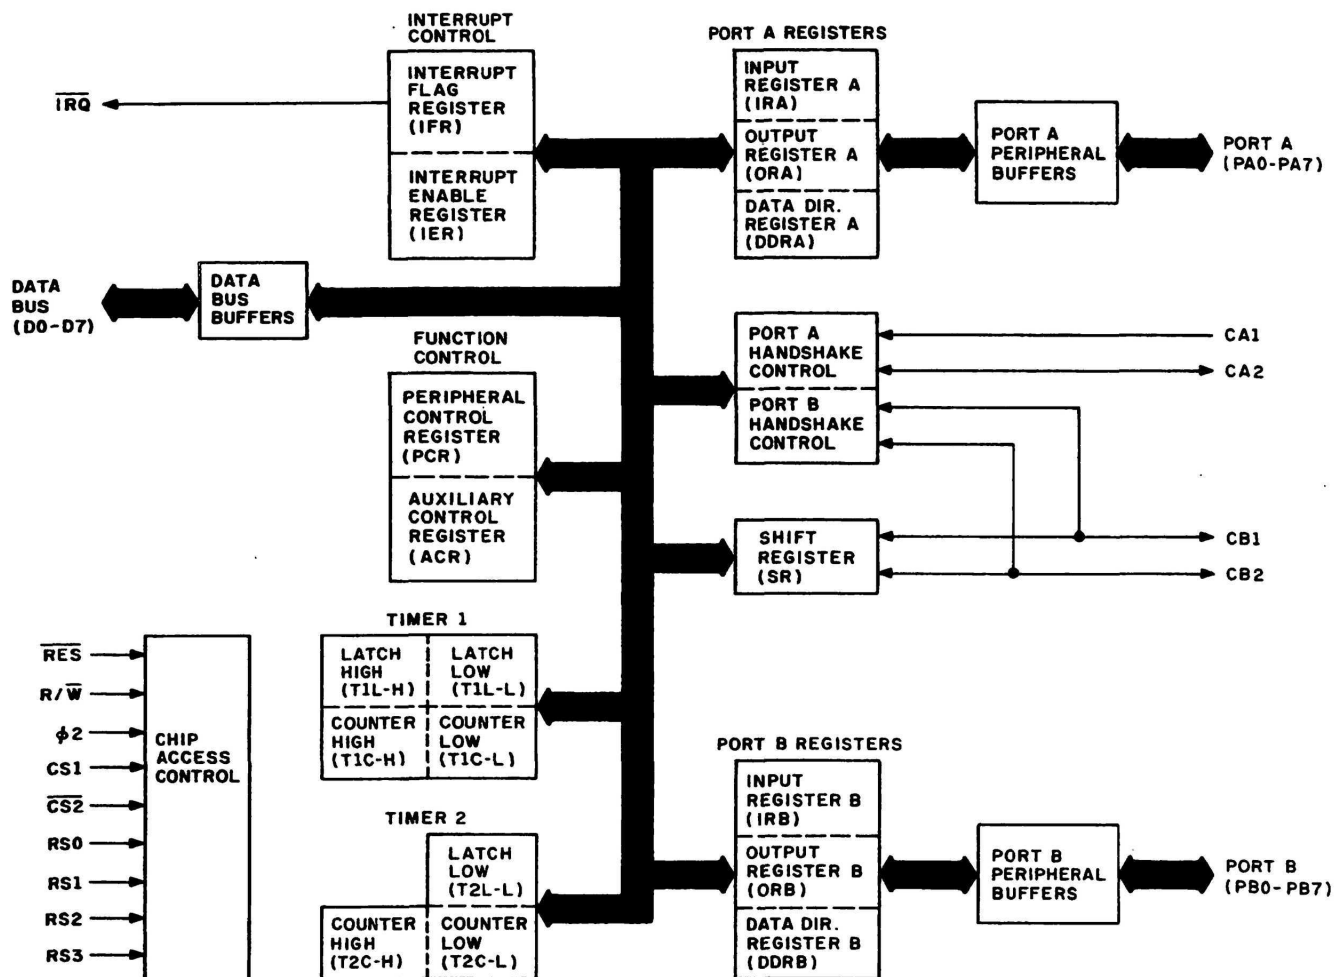

Figure 1: Block diagram of the internal configuration of the 6522 VIA (Versatile Interface Adapter) integrated circuit.
(1) a positive- or negative-going edge on any of the four control lines, (2) a timeout (overflow) condition on either of the timers, or (3) the completion of a shift-register shift cycle. One register selectively enables and disables interrupt generation, while the last register is reserved for special forms of I/O through port A. Figure 1 is a block diagram of the 6522 chip's internal layout.